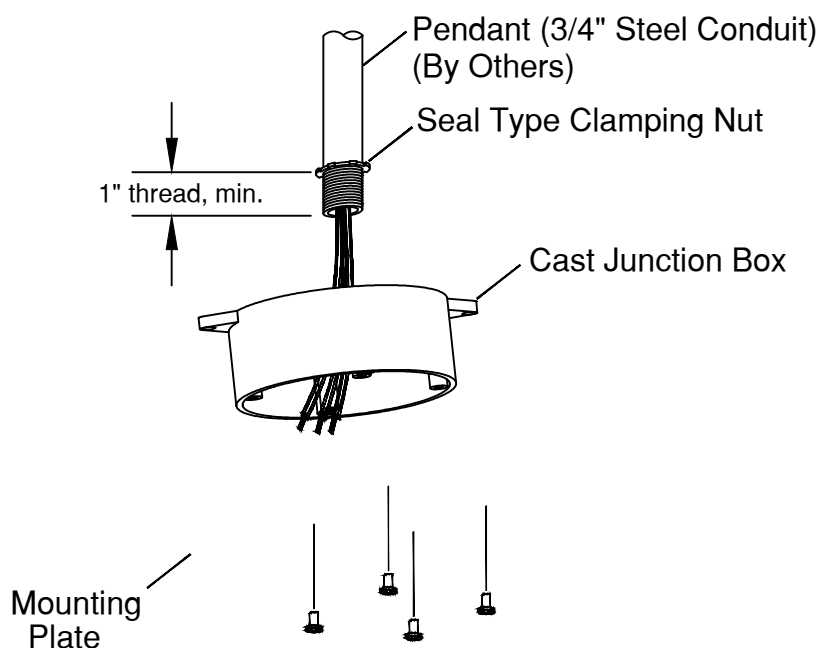

Fig. 6
1. Install clamping nut (supplied) to 3/4" IPS steel conduit (by others). Sealing feature to be toward open end of conduit.(Fig. 6)
3. Attach mounting plate to cast junction box with (4) #8-32 screws.